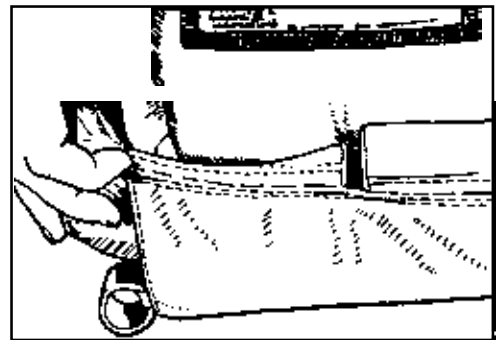

Figure 8
Step 4 Route the steering line through the grommet in the main steering toggle from the bottom out the top and align the mark on the line with the grommet. Fasten the line to the toggle with what is commonly called a Figure 8 knot and secure the running end with an overhand locking knot. Make sure the toggle is secure and the knot will not slip.
Step 7 Close the outside tongue of the T.O.P. cover first. *Figure 8*